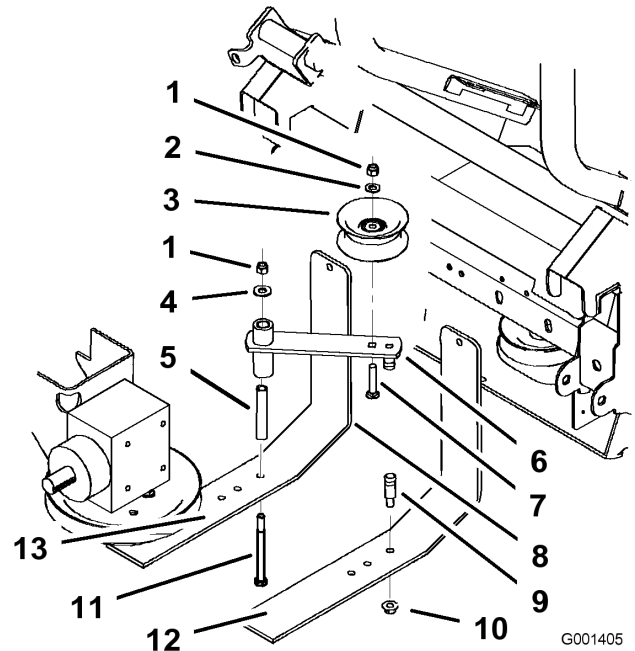

Figure 15
2. Install the spring anchor to the left rear bottom frame with a flange nut (3/8 inch)(Figure 15).
3. Install the spring loaded idler pulley to the right rear bottom frame with a bolt (3/8 x 4 inches), long spacer, washer (7/16 inches), and a locknut (3/8 inch) (Figure 15).
Important: Make sure the idler arm and spring anchor is installed in the correct holes shown in Figure 15 .